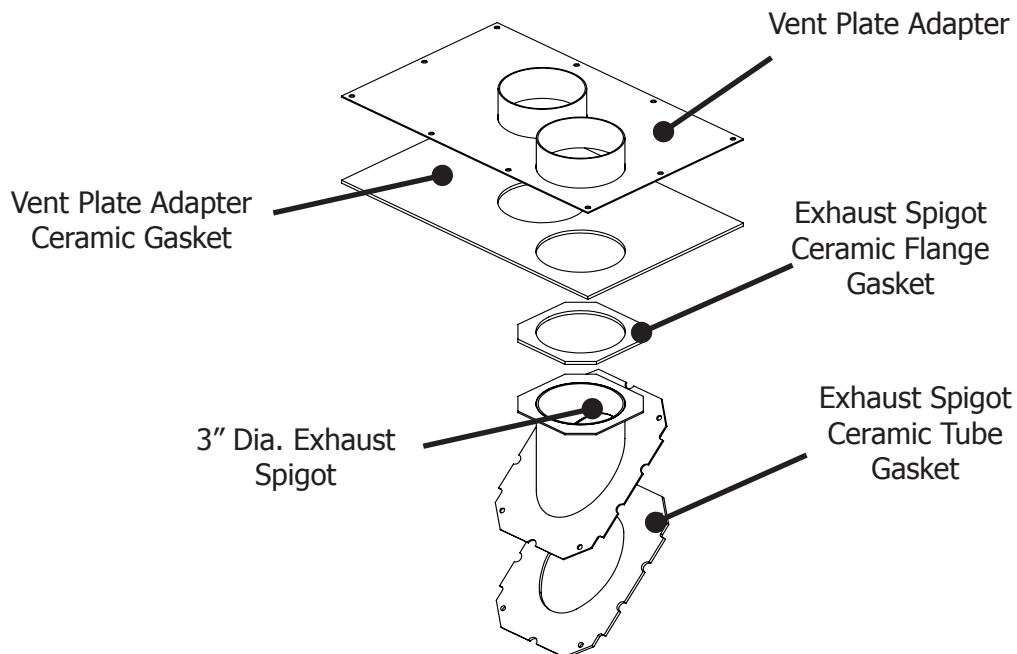

Figure 43: Co-Linear Venting Kit Contents
- STEP 8.** Continue to add pipe sections until the height of the vent cap meets the minimum code requirements. Refer to Figure 43 and Table 8. Note that for steep roof pitches, the vent height must be increased. In high wind conditions, nearby trees, adjoining roof lines, steep pitched roofs, and other similar factors can result in poor draft, or down drafting. In these cases, increasing the vent height may solve the problem.
**Table 8: Minimum 'H' for Figure 43.**